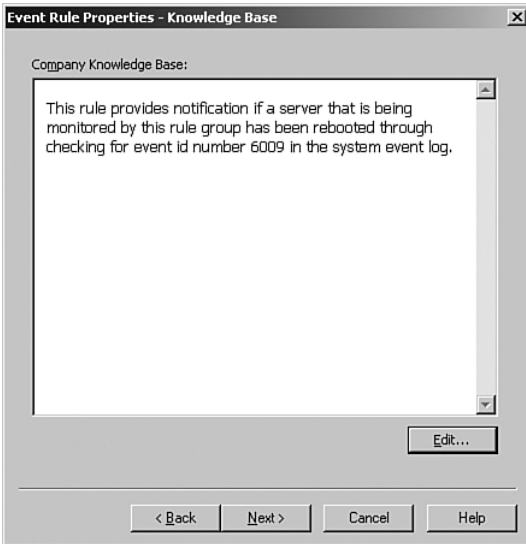

FIGURE 14.13 The Company Knowledge Base screen of an event rule.
7. After configuring the responses, the next step of the wizard is to configure the Knowledge Base Event Rule properties. Figure 14.13 displays the Company Knowledge Base screen for the rule. The Company Knowledge Base is blank by default but as shown here can be used to provide documentation for the rule you are creating.